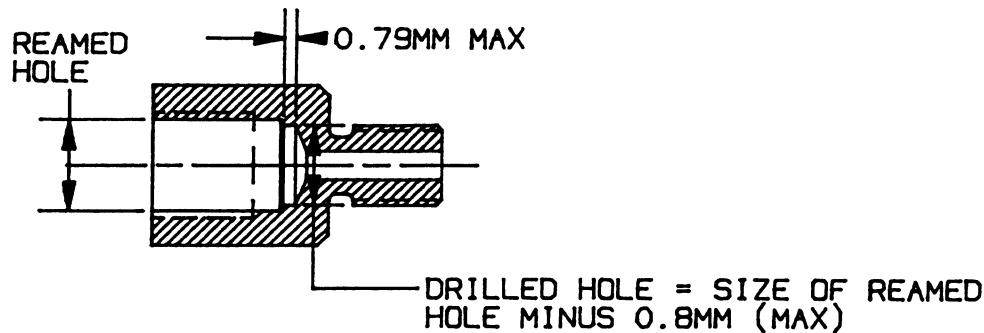

FIGURE 2 - Pilot Hole Size and Depth
- 3.2.3.2 Pilot Drill Size and Depth: The pilot drill size for a reamed or bored hole is generally not specified on the engineering drawing. Unless otherwise noted, the drilled hole may be smaller than the finished machined hole by not more than 0.8 mm. The depth of the reamed or bored hole shall be within 0.8 mm of the drilled hole depth. See Figure 2.